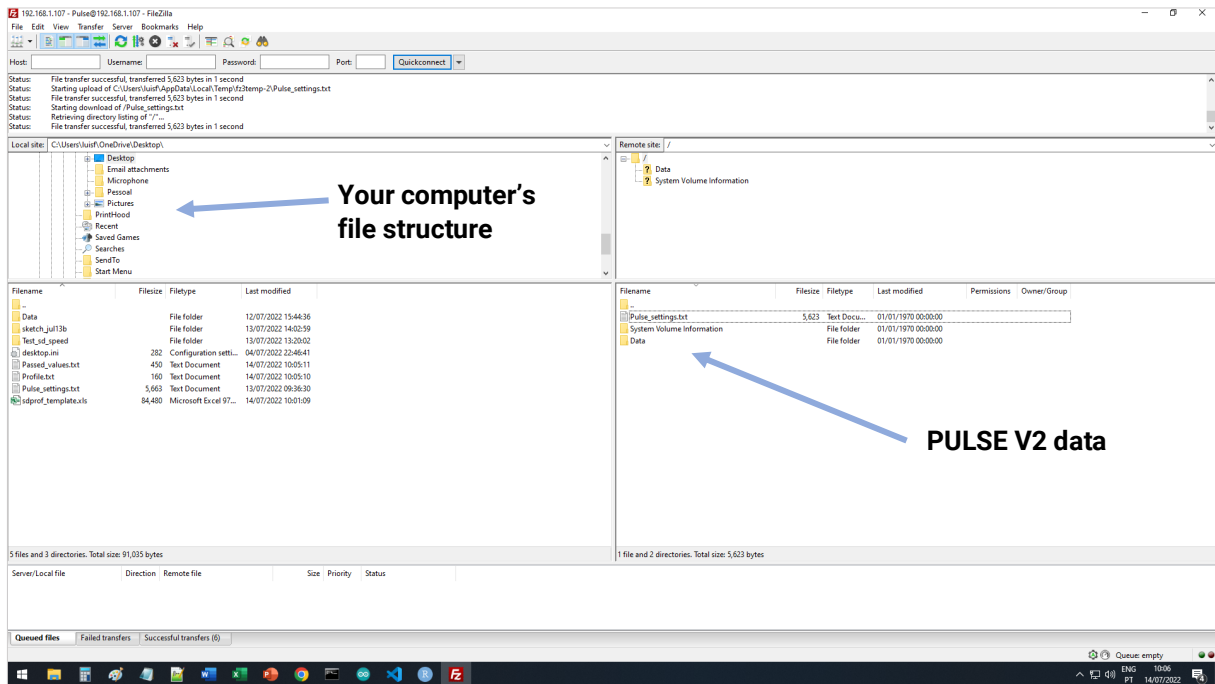

Fig. 5: Accessing your data in FileZilla interface.
10. You can now click '**Connect**'. Once the connection is established, you'll be presented with the file storage tree held in your PULSE V2's memory (**Fig. 5**).